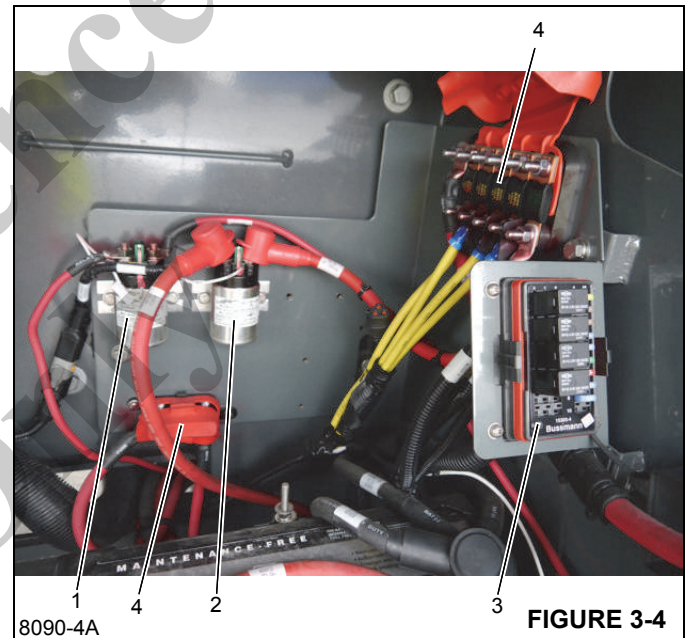

FIGURE 3-4
Fuses are located behind the seat in the cab (Figure 3-3) and in the battery box fuse panel (3) (Figure 3-4) in the battery box.
The relays are located at the back of the battery box (Figure 3-4): Includes K-301 start relay (1) and K-302 grid heater relay (2).